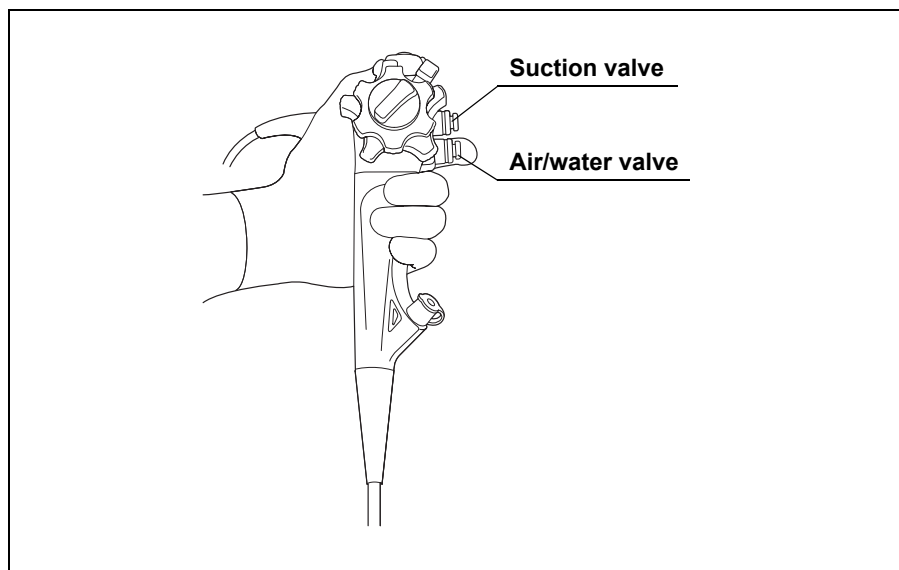

Figure 4.3
1. Cover the air/water valve's hole to feed air from the air/water nozzle at the distal end (see Figure 4.3).
2. Depress the air/water valve to feed water onto the objective lens (see Figure 4.3).
Depress the suction valve to aspirate excess fluids or other debris obscuring the endoscopic image (see Figure 4.3).